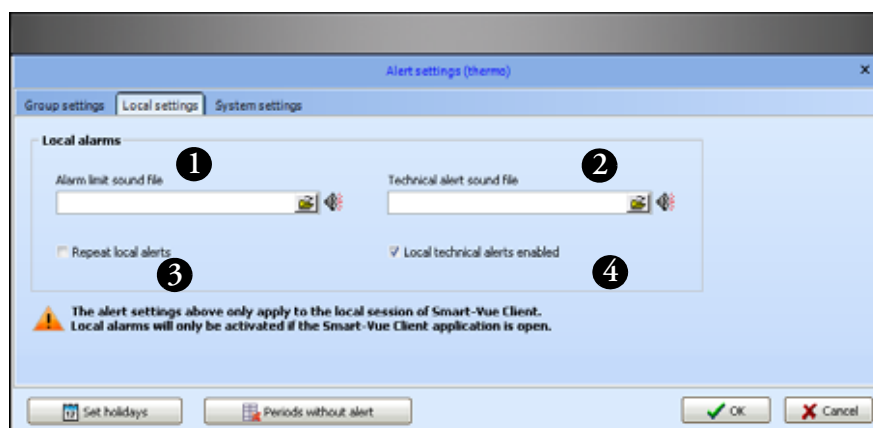

Figure 89. Local settings in the Alert management screen
5. **You may choose to play sound files (.WAV) if a limit is exceeded (#1 in Figure 89) or a technical alarm (#2) is detected. You may disable local technical alerts (#3).**